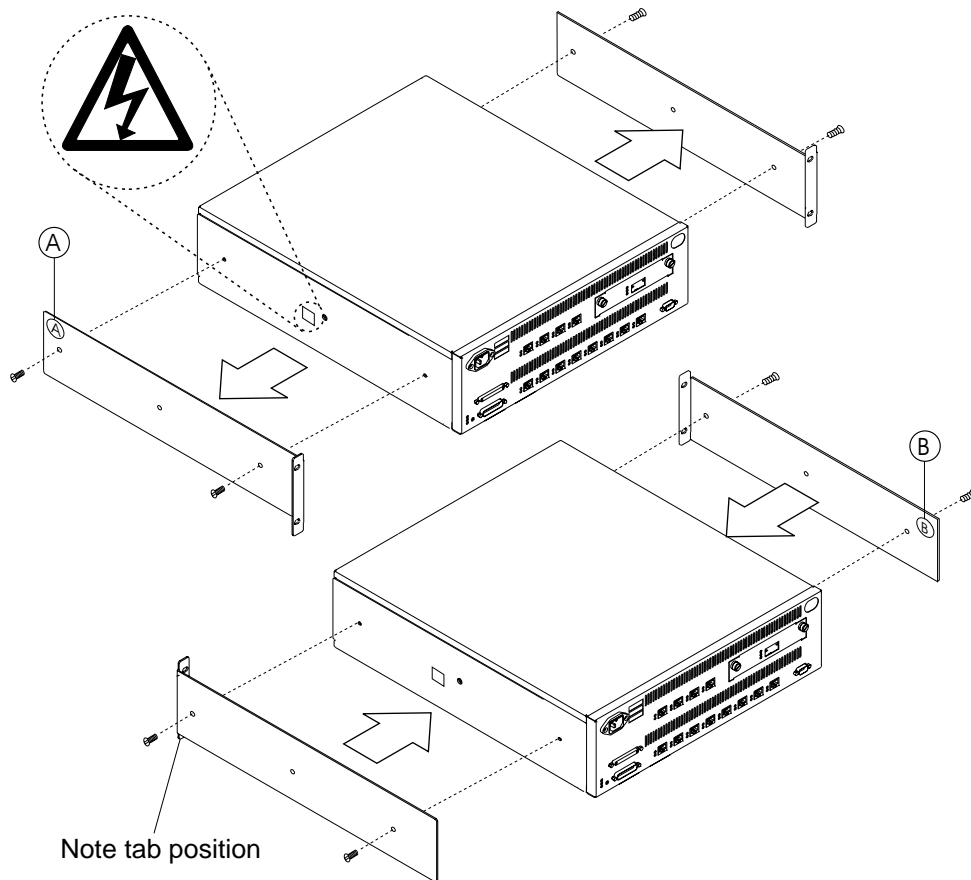

Figure 25. Attaching the Mounting Brackets for Surface Mounting
- **2** Rotate the brackets and reattach them to the Base Unit as shown in Figure 25 on page 52. The bracket stamped (A) stays on the left side of the Base Unit (from the front) and the bracket stamped (B) on the right side.